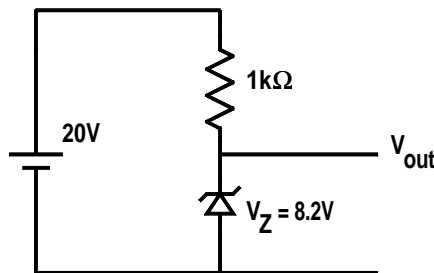

Figure 29.3: Example 29.1.
29.1 The circuit shown in Figure 29.3 is a Zener diode voltage regulator. Calculate the maximum current which can be drawn by a load connected to the output before the output voltage drops below 8.2 V.